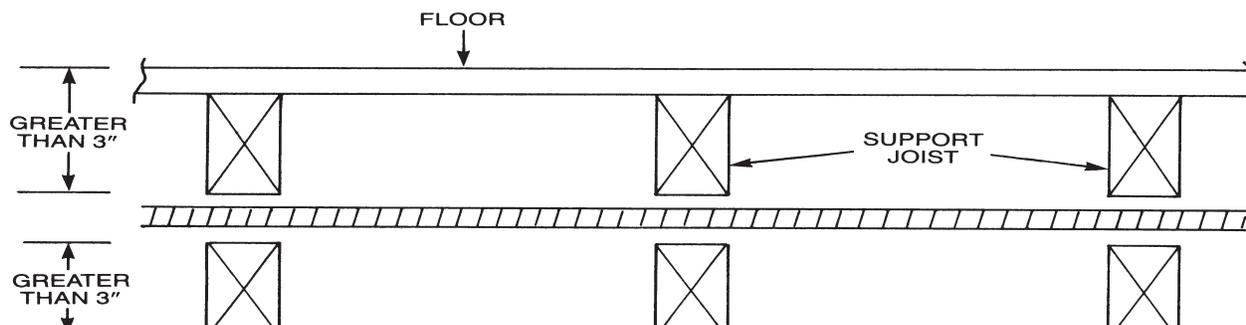

Figure: 4-10
a. Where the tubing is supported more than 3 inches from any outside edge of a stud, joist, plate, etc. or wall surface. (Figure: 4-10).